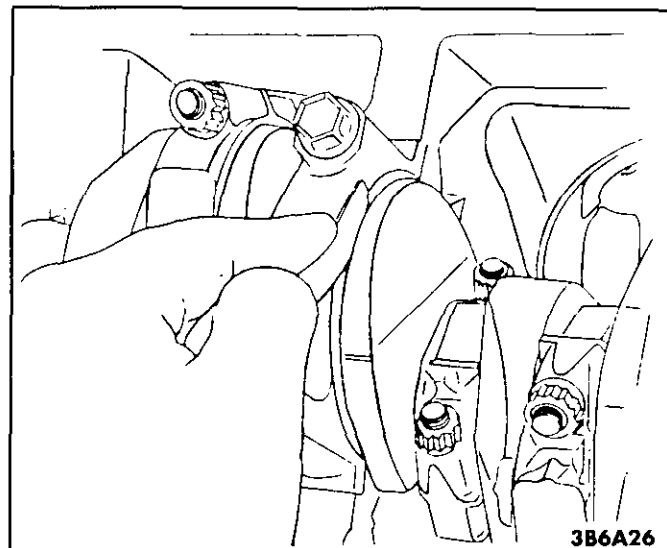

Figure 30 Measuring Crankshaft End Play
- Crankshaft end play (Figure 30)